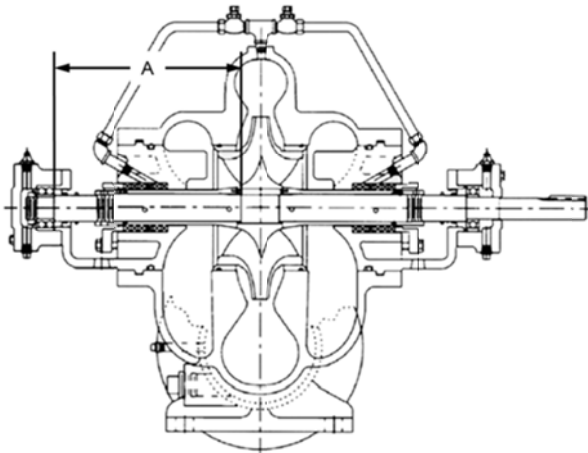

Fig. 20 Series 8100 Impeller location
2. Check the impeller [4-002-0] and casing to determine the correct impeller rotation, and locate the impeller on the shaft in accordance with Figs. 20 and 21 and Tables 9 and 10.